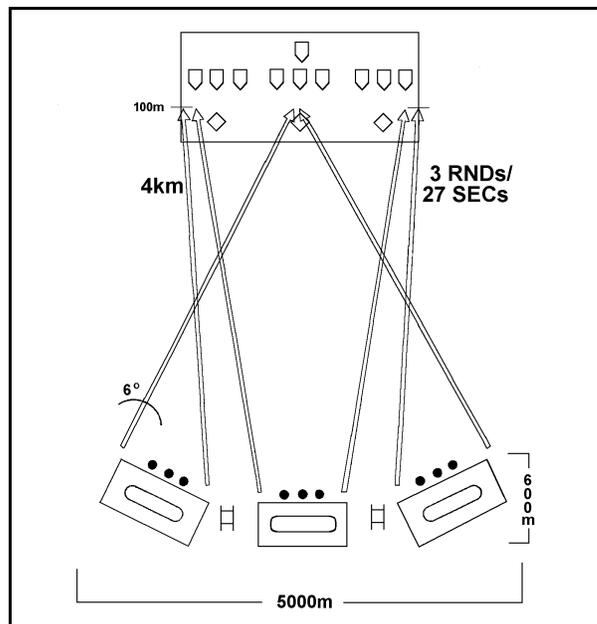

Fig. 2
• **Engaging the FSE.** (See Figure 2.)